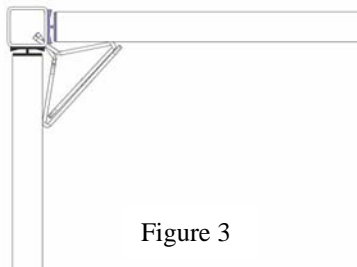

Figure 3
2. Insert the left adapter bracket, tabs facing up, into matching corner of office furniture equipment mounting slots and slide up until mounting holes align (see Figure 3).